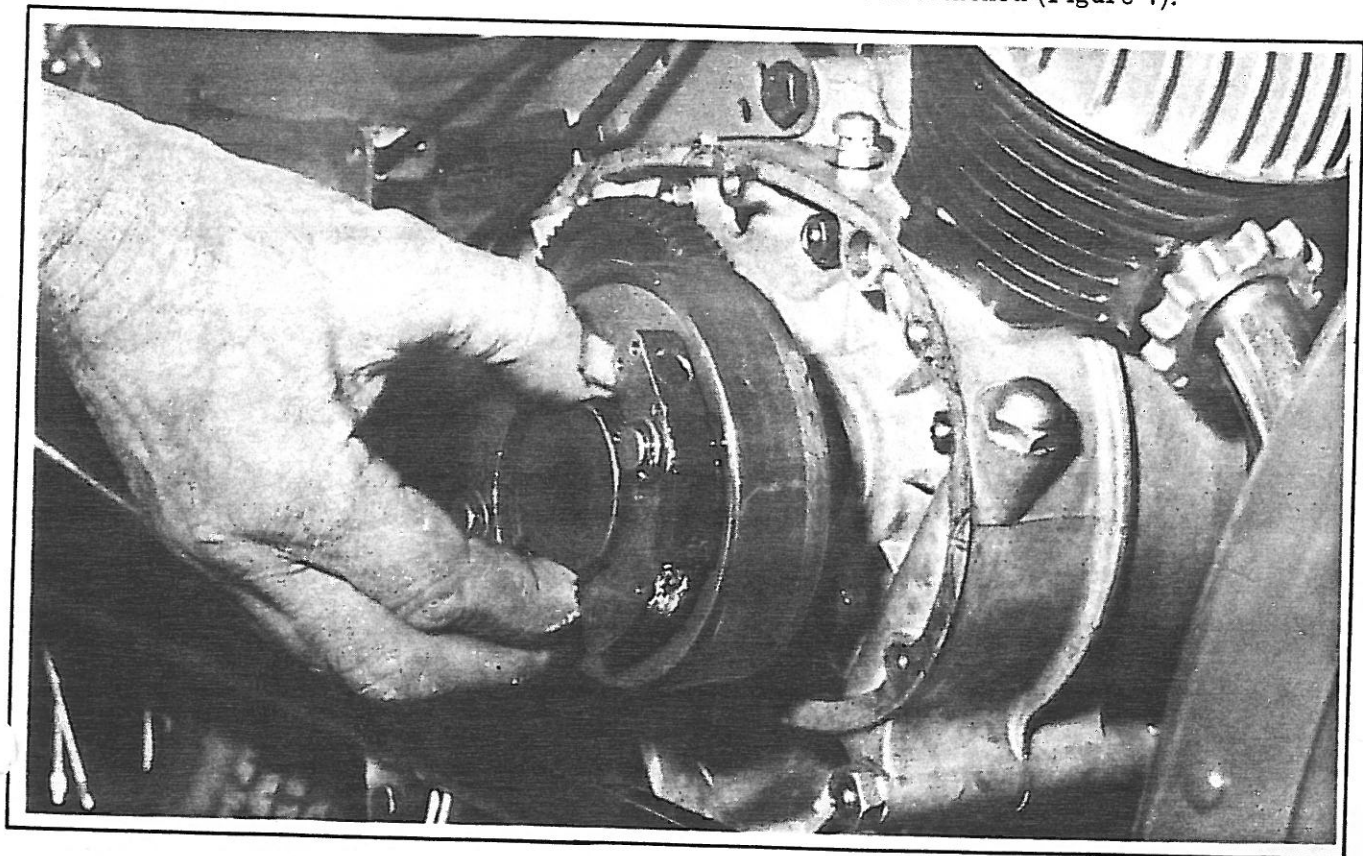

Figure 7.
- d. Use Tru-Arc pliers to remove the retaining ring holding the starting clutch plate. Remove clutch plate with clutch shoes attached (Figure 7).